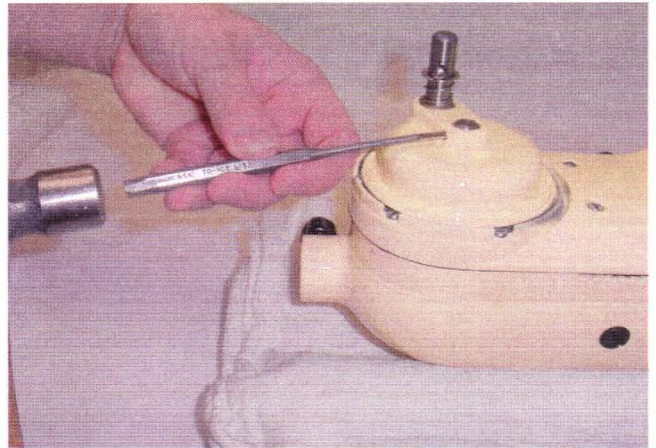

Fig. 68 Carefully drive the groove pin into the shaft of the planetary.
U. Drive the groove pin into the shaft (Fig. 68). There should be a very small amount of end play.